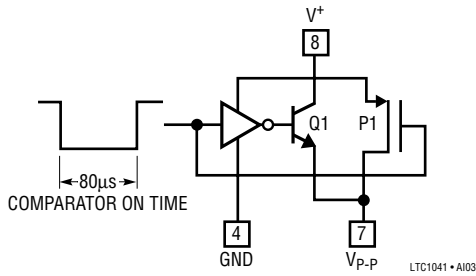

Figure 3.  $V_{P-P}$  Output Switch
Figure 3 shows the  $V_{P-P}$  output circuit. The  $V_{P-P}$  output voltage is not precisely controlled when driving a load (see typical curve of  $V_{P-P}$  Output Voltage vs Load Current). In spite of this, high precision can be achieved in two ways: (1) driving ratiometric networks and (2) driving fast settling references.